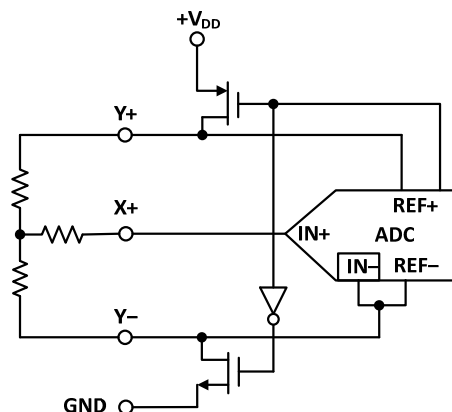

Figure 1: Simplified diagram of differential reference (Y switches enabled, X+ is analog input).
See Figure 1, by using the differential mode, the +REF and -REF inputs are connected directly to Y+ and Y-, respectively. This makes the A/D converter ratiometric. The result of the conversion is always a percentage of the external reference, regardless of how it changes in relation to the on-resistance of the internal switches.
(1) Reference voltage at converter: +REF – (–REF). See Figure 1.
(2) Input voltage at converter, after multiplexer: +IN – (–IN). See Figure 1.